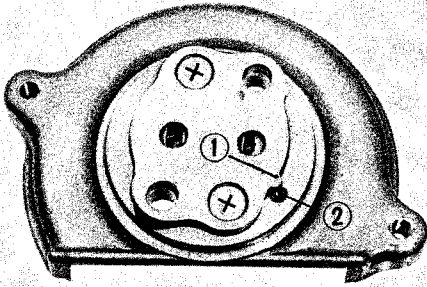

Fig. 60 ① Convex ② Concave
- 1) Perform the reassembly in the reverse order of disassembly. Align the concave part on the oil pump to the convex part on the oil pump plate and install (Fig. 60)